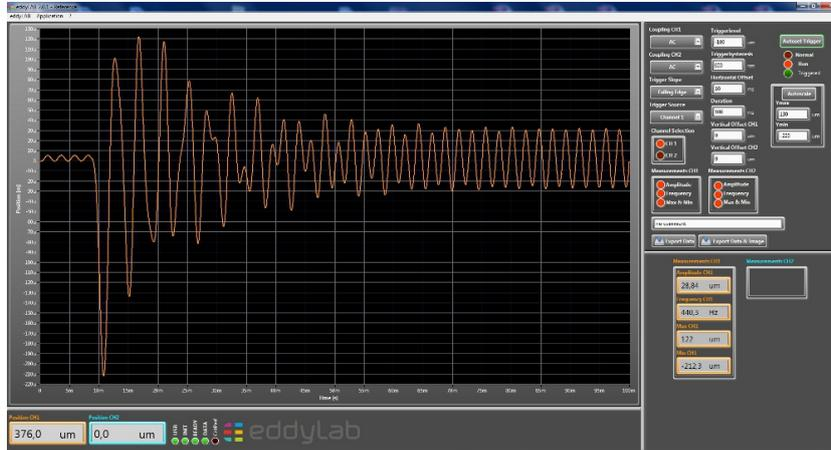

Figure 3: The AC-coupled Position of a tuning-fork.
**Measurements** can be taken from the displayed data. For periodic motion the *frequency* and the *amplitude* can be measured. Figure 3 shows the AC-coupled signal of a triggered tuning-fork which oscillates at a frequency of 440.3Hz. The Min/Max values are -212.3 and 122 $\mu$ m.